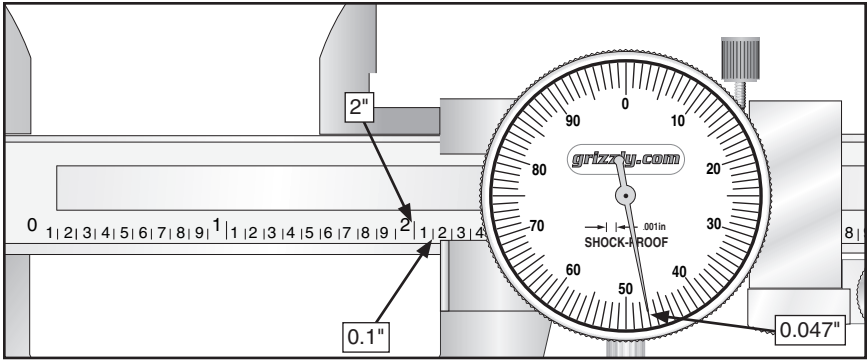

Figure 12. Reading a caliper measurement.
- To take a measurement, first read the rightmost raised number (if any) to the inner edge of the right caliper jaw to determine the number of whole inches. Next, read the rightmost lower number to the left of the jaw edge for $\frac{1}{10}$ " or 0.1" increments. Lastly, read the dial itself to determine any remainder. **Figure 12** shows a caliper set to 2.147".